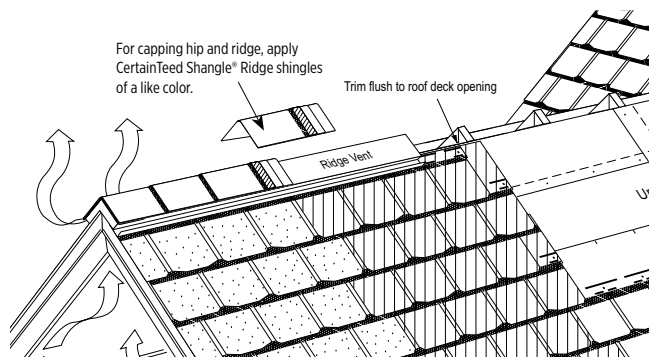

Figure 15-16: Installation of Shangle Ridge shingles on ridge vent.
- If shingle-over ridge vents are being installed (Figure 15-16), they must match the 12" width dimensions of the hip and ridge caps. Be sure to follow the ridge vent manufacturer's instructions. To attach the cap shingles to the shingle-over ridge vent, use hot-dipped galvanized nails of sufficient length to penetrate 3/4" into, or through, the deck.